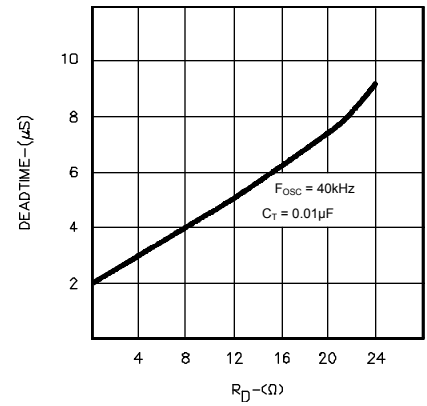

FIGURE 12.
2. If more dead time is required, select a larger value of R_D using Figure 12 as a guide. At 40 kHz dead time increases by 300 ns/ Ω .